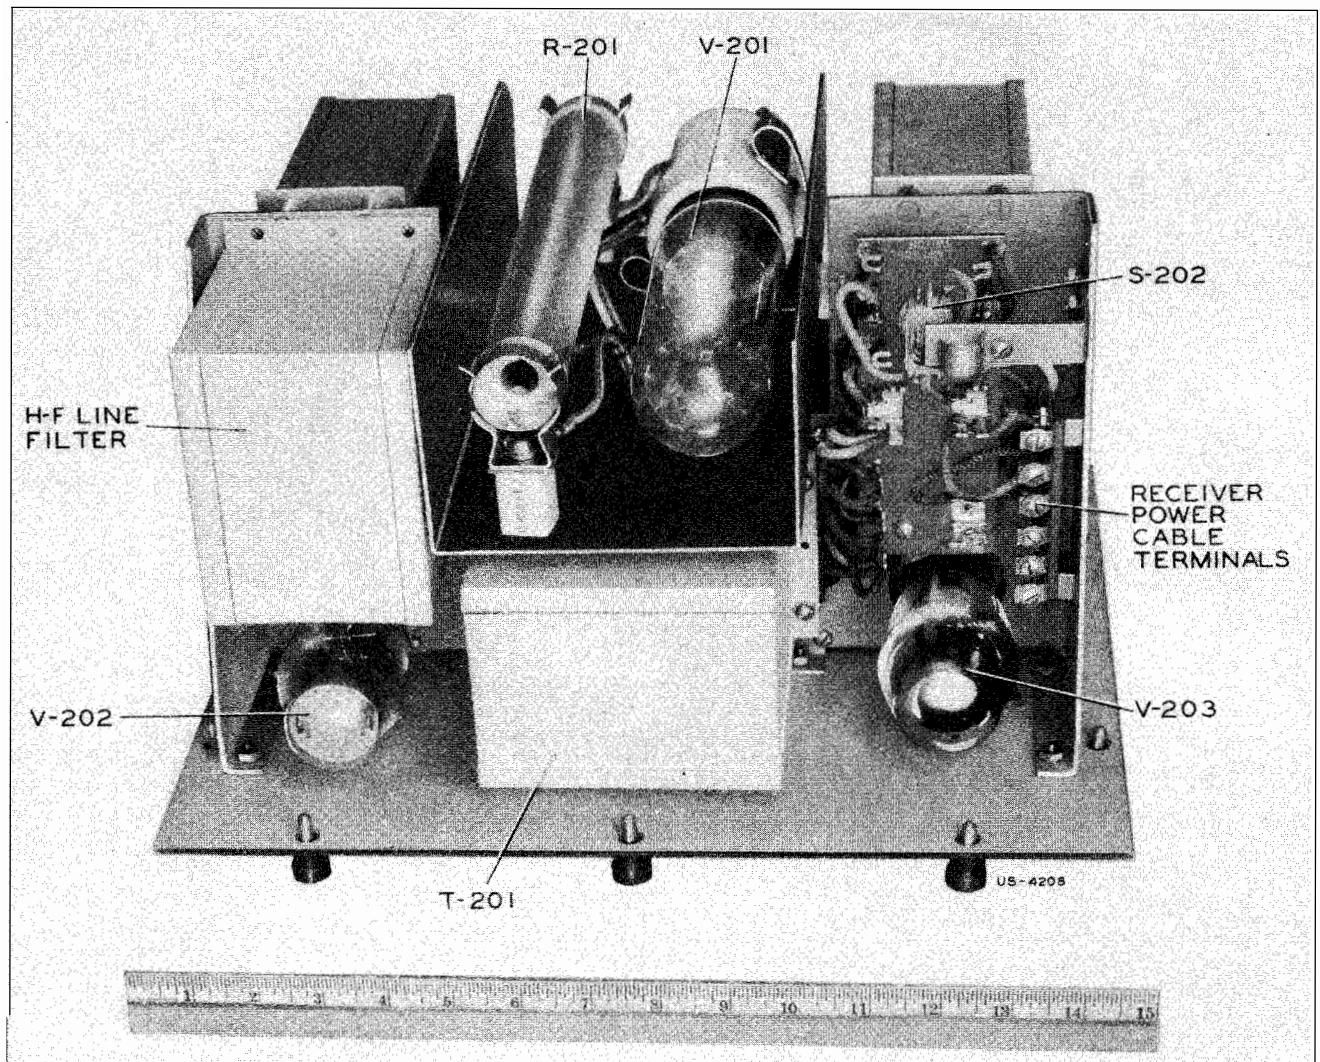

Figure 1—Power Unit CRV-20131 (Top View of Chassis)
6.4-1 The wiring between units is shown in Figure 15. At installation, the supply voltage should be measured or otherwise ascertained and the primary taps of the power transformer (T-201) shifted if necessary to comply with the nominal line rating. These taps are connected at the factory for 115 volts as indicated by the marking "115" adjacent to the terminals to which the *red* wires from toggle switch S-202 is connected (see Figures 1, 4 and 20). If the supply voltage is nearer 110 or 120 volts than 115 volts, shift these *red* wires to one of the two other pairs of terminals (marked "110" and "120," respectively) as required. To eliminate as much a-c hum and other electrical interference as possible, the 110-, 115-, or 120-volt, a-c supply should be connected to the power unit by a shielded twisted pair of wires (No. 14 or larger), or run in grounded conduit as far as the bulkhead adjacent to the power unit and terminated in a junction box. In no case should transformers or other a-c equipment be located in close proximity to the receiver.
7.1-1 The tube locations are shown in Figures 1 and 15.
8.3-1 The power unit is designed for mounting underneath a table (see Figure 14). The cabinet may be permanently mounted, the chassis being removable for access to tubes, for servicing, and for cable connections. All components are mounted on the chassis or panel forming a single assembly (see Figures 1, 4, and 7). On top of the chassis from left to right are located the rectifier tube, h-f line filter shield, power transformer, voltage regulator tube, resistor board, and power terminals. The line filter shield at the left rear is removable for access to the line input terminals and fuses. In the center at the rear is located the current-regulator tube. Beneath the chassis from left to right are located the l-f line filter, ripple filter reactors, and ripple filter capacitor pack.
- 9.5-6 In order to make this power unit interchangeable with the one used in the RAL Series equipment, a socket is provided for a Type -876 current-regulator tube. Since this equipment operates at relatively low frequencies, the additional freedom from effect of line voltage variation obtained from the current-regulator tube is not needed if the line regulation is within ± 10 percent. In the interest of conserving primary supply current, its use with this equipment is not recommended under normal circumstances. A switch, therefore, is provided inside the unit (see Figures 1 and 4) which accomplishes the changes in circuit necessary for operation without this tube. This switch disconnects the current-regulator tube and switches the power transformer primary for operation directly connected to the line filter. (See paragraph 10.2-3.)
- 10.2-3 Current Regulator Switch: This switch is located under a terminal board at the right rear top of the chassis (see Figures 1, 4 and 20) and should be thrown to the "Out" position for this equipment. In this position, the proper primary connections to the transformer are made for operation without current regulation.